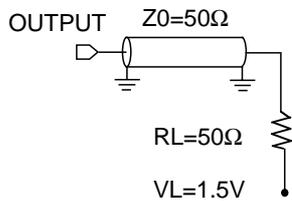
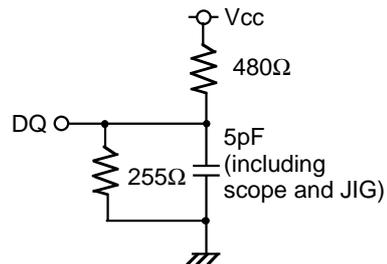

Fig.1 Output load
Fig.2 Output load for  $t_{en}, t_{dis}$
**(1) MEASUREMENT CONDITION**
- Output loads ..... Fig1, Fig2
5. Transition is measured  $\pm 500\text{mV}$  from steady state voltage with specified loading in Figure 2.